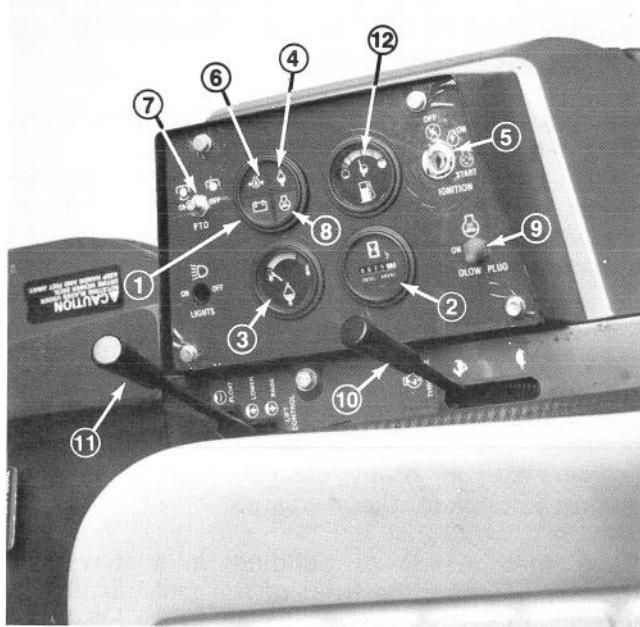

Figure 18
**Amp Light** (Fig. 18) — The amp light should be off when engine is running. If it is on, the charging system should be checked and repaired if necessary.
**Hour Meter** (Fig. 18) — Accumulated engine operating time registers on the hour meter.
**Temperature Gauge and High Temperature Light** (Fig. 18) — The coolant temperature gauge registers the coolant temperature in the system. If the temperature gets too high the engine will automatically shut off and the High Temperature Shutoff Light will light. When this happens, turn the ignition key off, check radiator for debris, check the fan belt and check the expansion tank for proper coolant level. The high temperature shutoff will automatically reset when the coolant temperature has reached a safe level.
**Low Oil Pressure Light** (Fig. 18) — If engine oil pressure falls below a safe level, the light glows. Stop engine and repair before resuming operation.
**PTO Switch** (Fig. 18) — Pull up on sleeve on toggle switch handle and move handle to ON to ENGAGE electric PTO clutch. Pull up on sleeve and move handle to OFF to DISENGAGE electric PTO clutch. The only time the PTO switch should be in the ENGAGE position is when the implement is down in operating position and ready to begin operation.
**Ignition Key Switch** (Fig. 18) — The ignition switch, which is used to start and stop the engine, has three positions: OFF, RUN and START. Rotate key clockwise — START position — to engage starter motor. Release key when engine starts. The key will move automatically to the ON position. To shut engine off, rotate key counterclockwise to the OFF position.
**Glow Plug Switch and Indicator** (Fig. 18) — Use to preheat engine cylinders prior to cold engine starting procedures — cylinders are preheated automatically during warm engine start operation. For cold starting, push switch lever upward and hold while watching indicator. Indicator will glow orange when the glow plugs are activated. Length of time necessary to preheat cylinders should be determined by atmospheric temperature; refer to Starting/Stopping Engine procedure.
**Throttle** (Fig. 18) — Throttle is used to operate engine at various speeds. Moving throttle forward increases engine speed — FAST; rearward decreases engine speed — SLOW. The throttle controls the speed of the cutter blades and, in conjunction with traction pedal, controls ground speed of the traction unit.
**Hydraulic Lift Lever** (Fig. 18) — The hydraulic lift lever has three positions: FLOAT, TRANSPORT and RAISE. To lower cutting unit to the ground, move lift lever forward into notch in seat platform — FLOAT. The FLOAT position is used for mowing and when machine is not in operation. To raise cutting unit, pull lift lever rearward to the RAISE position. After cutting unit is raised, allow lift lever to move to the TRANSPORT position. Cutting unit must be raised when driving from one work area to another.
1. Ensure parking brake is set, PTO switch is in OFF position and lift lever is in TRANSPORT or FLOAT position (Fig. 18). Remove foot from traction pedal and insure it is in neutral.
2. **Move throttle control (Fig. 18) to full FAST position.**
3. When temperature is below 15°C (60°F), push glow plug switch to ON position (Fig. 18) and hold for suggested interval.
4. Turn key in ignition switch to START position (Fig. 18). Release key immediately when engine starts and allow it to return to RUN position. Move throttle control to SLOW position.